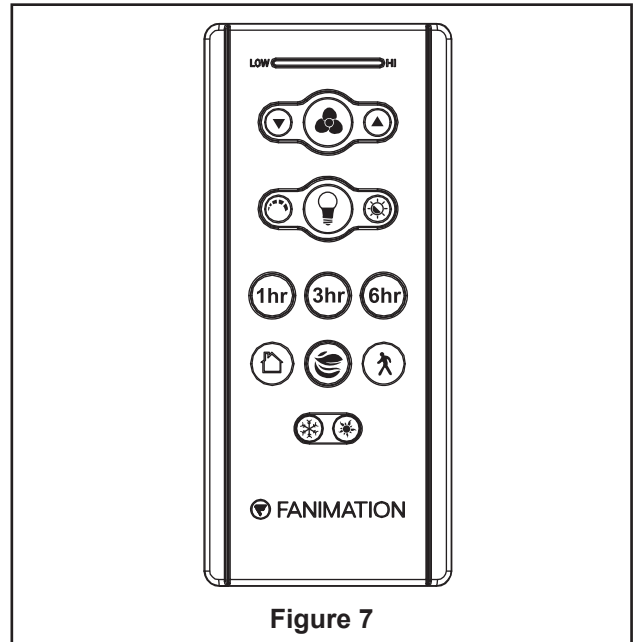

Figure 7
7. Secure the glass to light kit by twisting in a clockwise direction. Twist the glass gradually **until it snaps onto the light kit**. Do not over-tighten. (Figure 7)
### 9. Remote functions: (Figure 7)